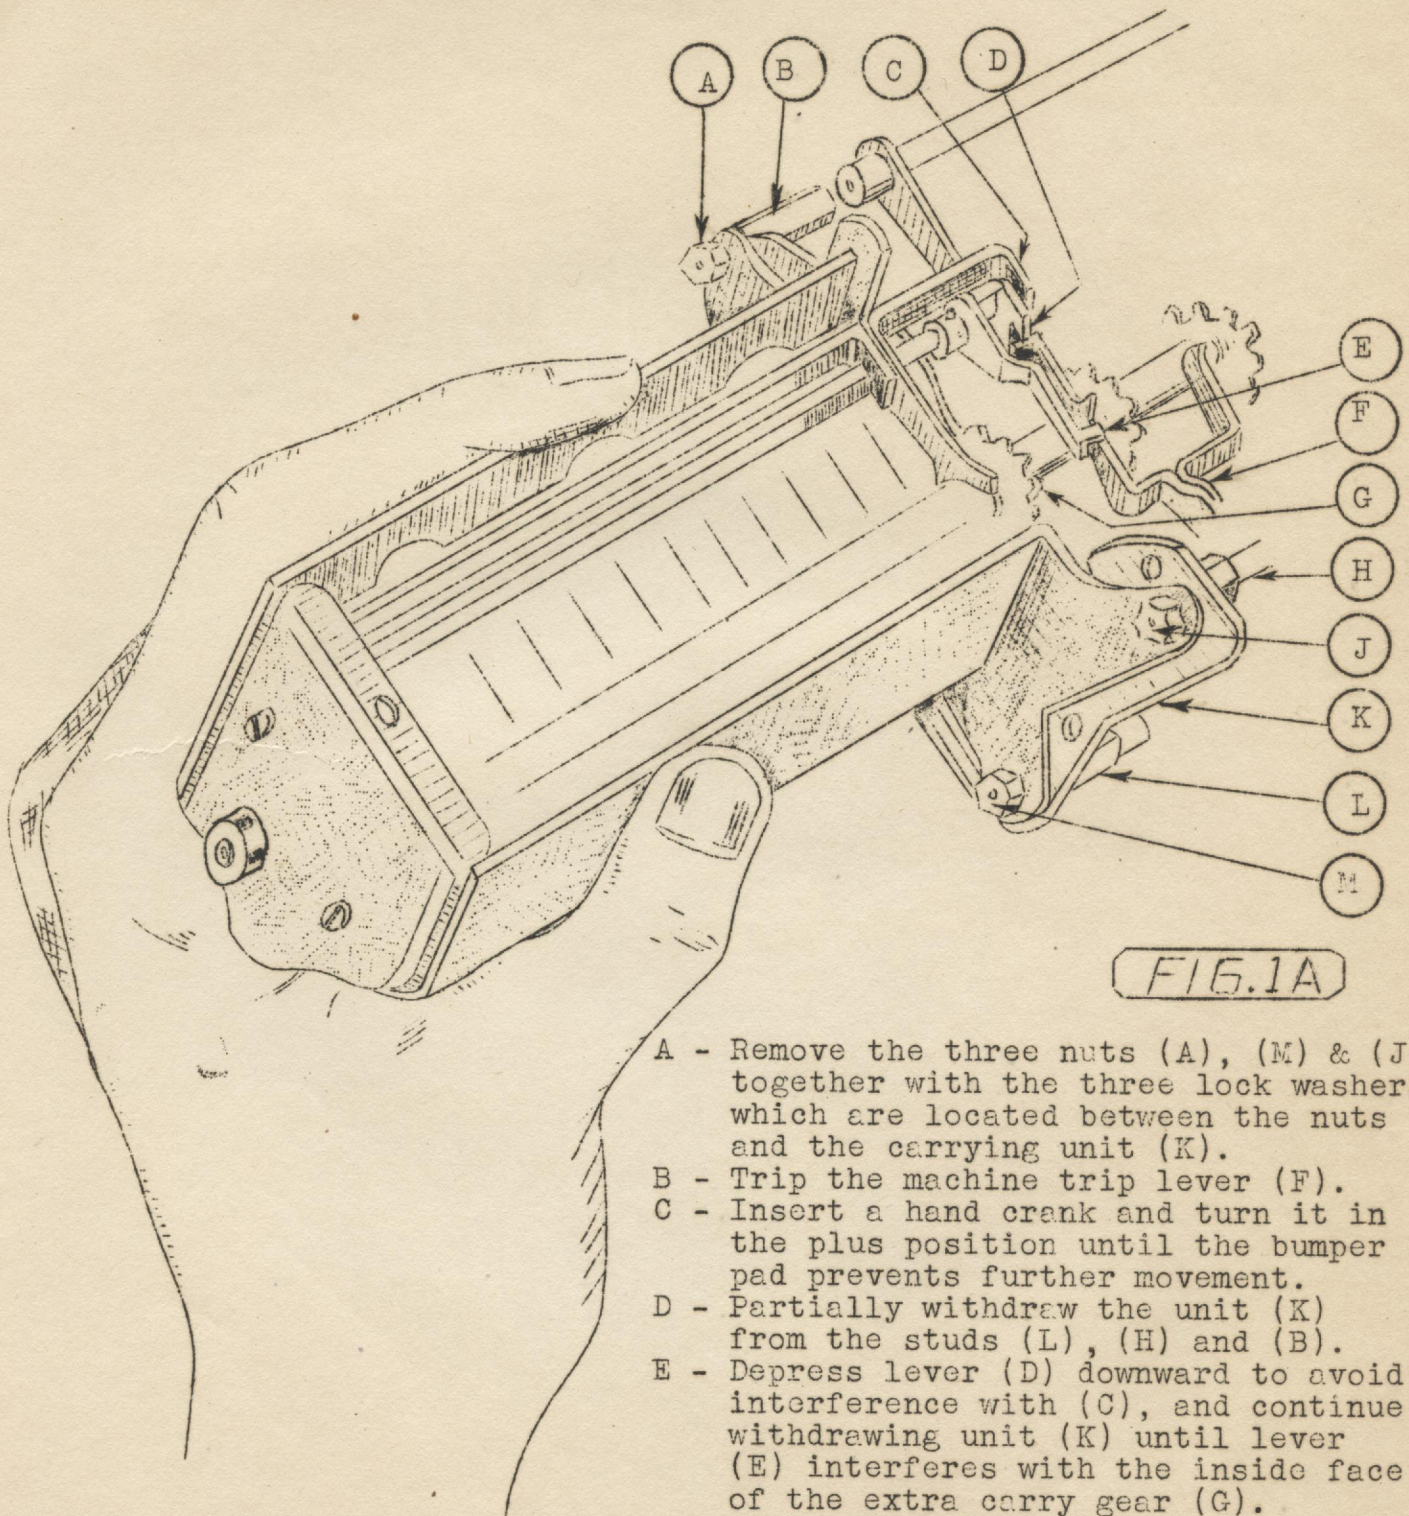

FIG. 1A
With the trip lever tripped and the mechanism held to the bumper pad in the plus direction by means of the hand crank and with driving blank (K), figure 1, plate 1, in the position shown, assemble the unit to the machine by locating (E), figure 1A, plate 2, on the inside of the outside extra carry gear. As the unit is advanced toward its permanent location, blank (D), figure 1A, plate 2, must be held down to permit the further inward movement of the unit. To advance the unit still further locate (E), figure 1A, plate 2, in position on top of the regular trip lever blank. At this point of assembly driving blank (K), figure 1, must be positioned so that its driving pin on the crank arm is located in its notch; care being taken to check if the retaining washer is assembled on the driving stud. Finally locate the check pawl (J) in the tooth space of the outside extra carry gear of the machine, as shown in circle on plate 1. The unit can now be tightened in place providing the original shim washers on studs (B), (H) and (L), figure 1A, have not been disturbed.